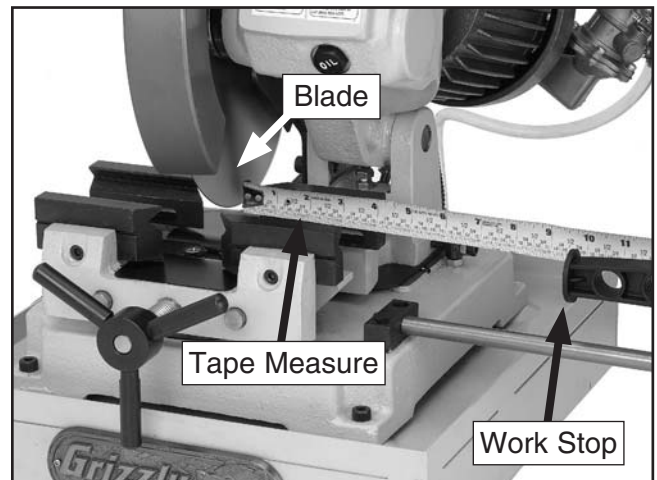

Figure 13. Measuring length of cut.
4. Measure from the side of the blade to the work stop. Slide the work stop until the distance between the blade and the work stop is equal to the desired length of the piece being cut, then tighten the cap screw (**Figure 13**).